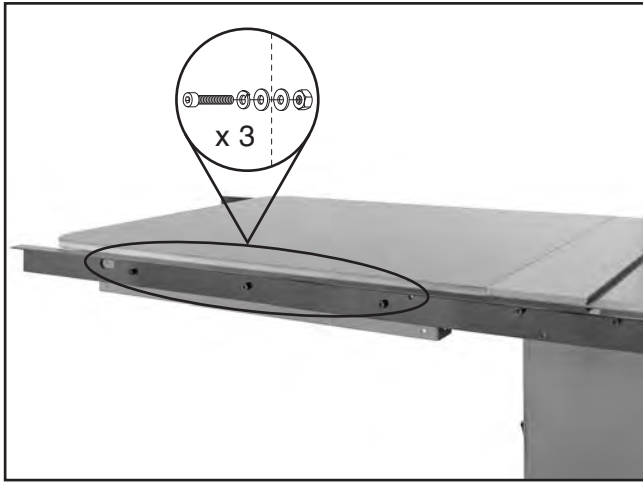

Figure 17. Rear rail/table fastener locations.
- Fasten the 79" rear rail to the extension table with three M8-1.25 x 25 cap screws, three 8mm lock washers, six 8mm flat washers, and three M8-1.25 hex nuts, as shown in **Figure 17**. Finger tighten for now.